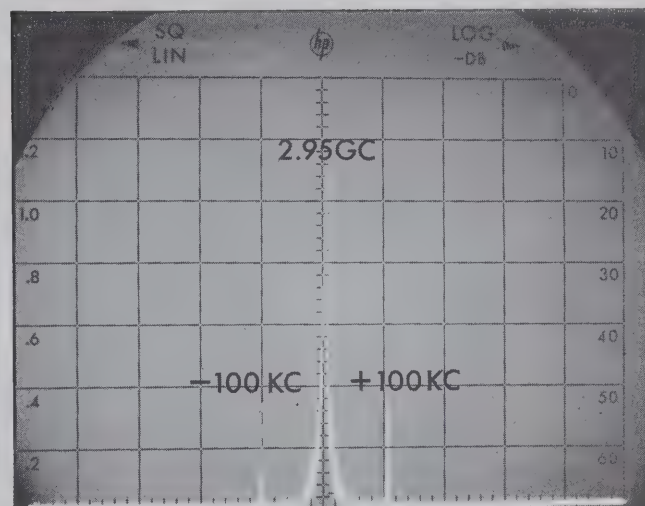

Figure 5-1. Spectrum Analyzer Display
j. Observe 100 kc sideband and adjust capacitor (A1C13) for minimum side bands (see Figure 5-1). Side bands should be 30 db below 2.95 gc reference.